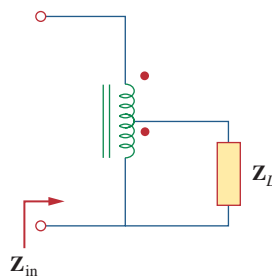

Figure 13.134
13.71 In the autotransformer circuit in Fig. 13.134, show that